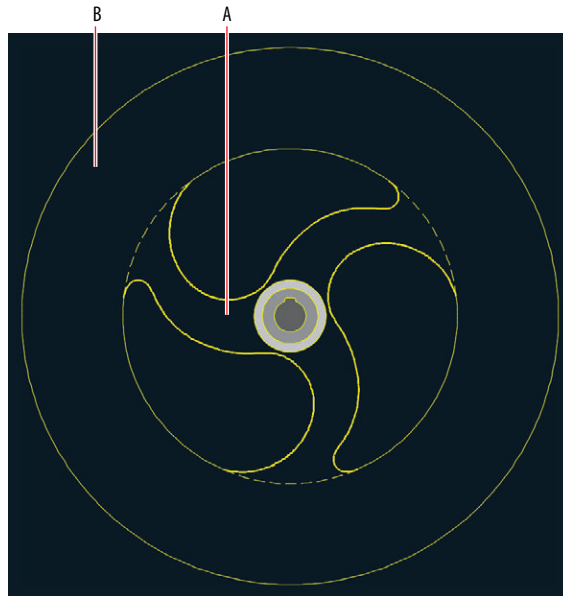

FIGURE 8.6 Picking points on the rotor
15. Click the Hatch tool on the Draw panel, and then click point A in Figure 8.6.
17. Type **H** (for Hatch), and press Enter. Click point B shown in Figure 8.6. The command prompt reads as follows: